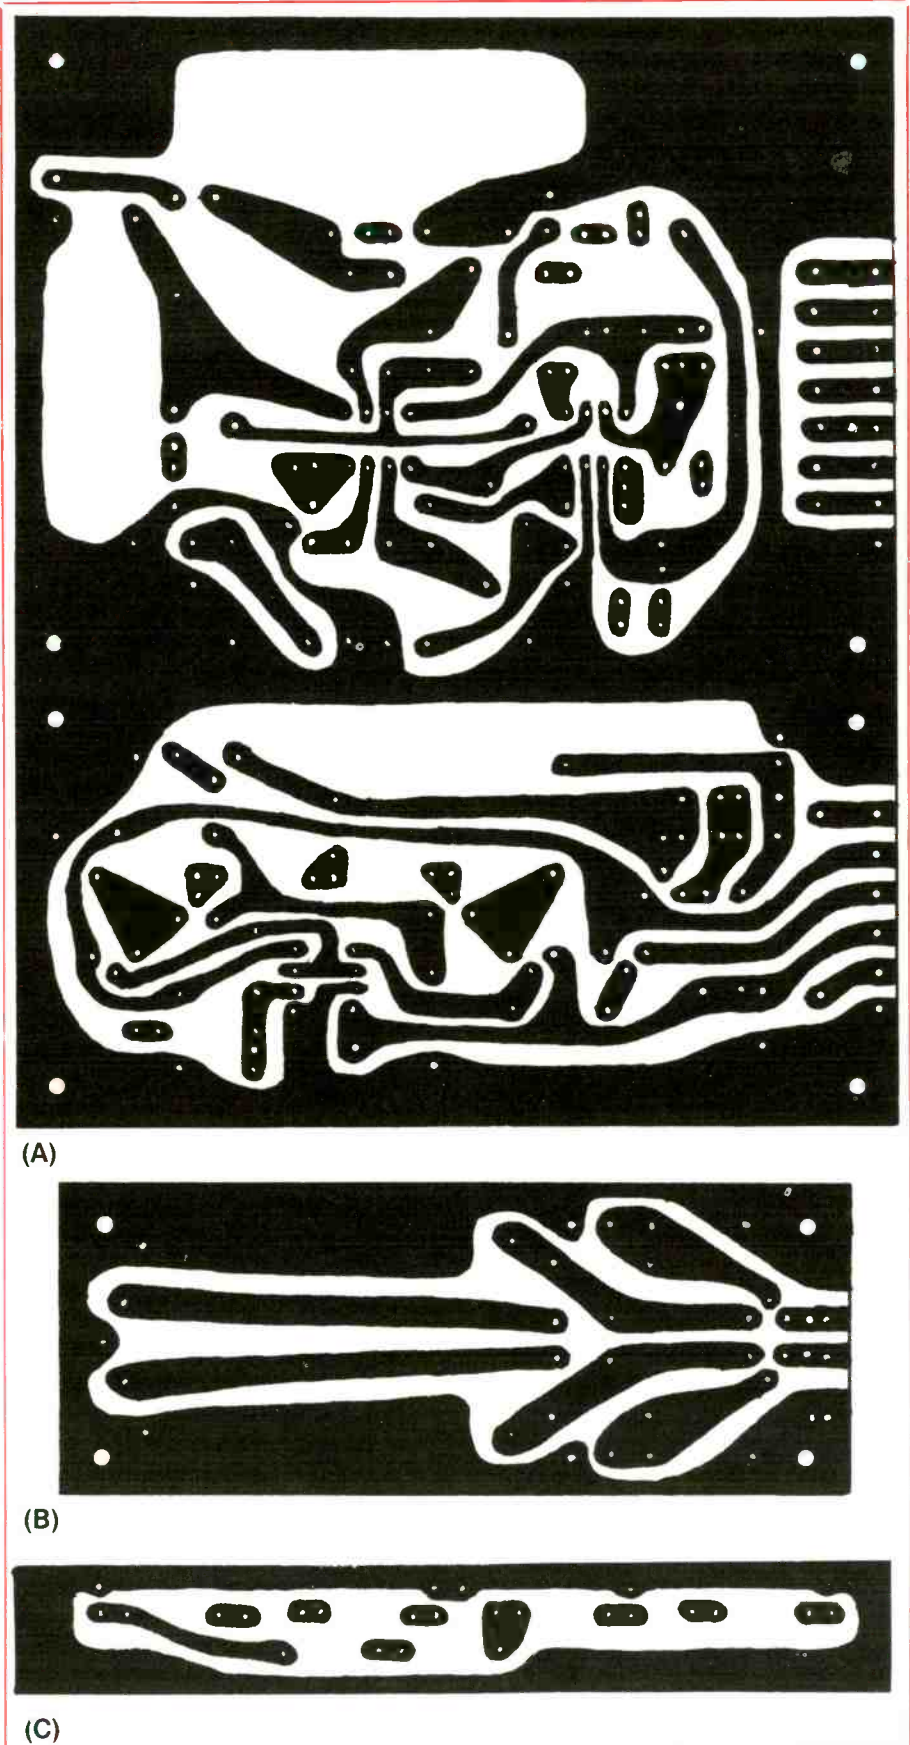
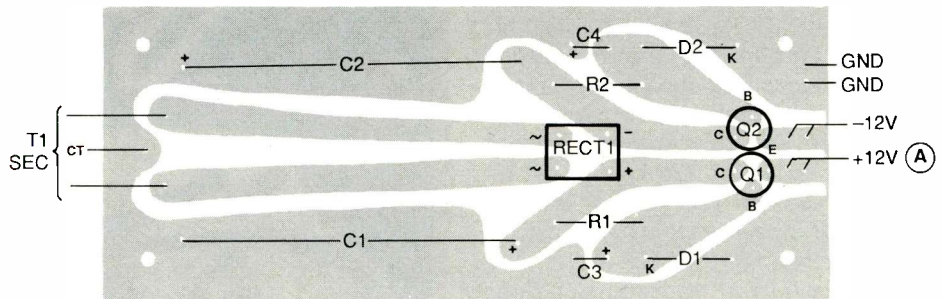

Fig. 4. Actual-size etching-and-drilling guides for: (A) transmitter/receiver, (B) power-supply and (C) display board.
Fig. 5. Wiring guides for: (A) transmitter, (B) receiver, (C) power-supply and (D) display boards.
For reliable operation, it's recommended that you assemble and wire your transceivers on printed-circuit boards. Actual-size etching-and-drilling guides are given in Fig. 4: (A) transmitter/receiver, (B) power-supply and (C) LED-display boards. These boards are designed to fit nicely inside the Radio Shack enclosures mentioned in the Parts List.
The Fig. 4(A) board is designed so that the transmitter and receiver sections can be separated by cutting the board after it's etched and before any holes are drilled. For full duplex operation, you need two complete boards. Simplex operation requires only one transmitter and one receiver.
Once the boards have been etched and drilled, populate them using the wiring guide shown in Fig. 5(A) for the appropriate portion of the Fig. 4(A) board. Begin populating this board by installing and soldering into place the socket for IC1. (Do not plug the IC into this or any other socket until after you've conducted preliminary voltage tests and are certain that your wiring is correct.)
Fig. 4(A) board as shown in Fig. 5(B). As with the previous board, begin populating it with the sockets for the ICs. Then install the resistors, capacitors and diodes, observing proper polarity for the electrolytic capacitor and orientations for the diodes. Plug in and solder into place trimmer control *R28*.
Next, use suitable lengths of insulated solid hookup wire to install and solder into place the jumpers that go from just outside the box on the left side of Fig. 5(B) to the various points on the board. Use solid bare wire for the jumper between *C14* and *C16*.
Place the Fig. 4(B) power-supply board in front of you as shown in Fig. 5(C) and install and solder into place the rectifier assembly and transistors. Make sure each is properly based before soldering its leads into place. Next, install and solder into place the resistors and diodes. Make sure the latter are properly oriented. Then install and solder into place the capacitors, again making sure each is properly oriented.
Now, referring to Fig. 5(D), wire the remaining board as shown. Install and solder into place the resistors and then the diode, making sure it's properly oriented. Finish up by installing and soldering into place the LEDs. Again, make sure each is properly oriented.
board and solder them into place, as shown in Fig. 5(C). Then twist together the transformer primary leads and line-cord conductors and place a wire nut on each connection to thoroughly insulate it from the other and anything else.